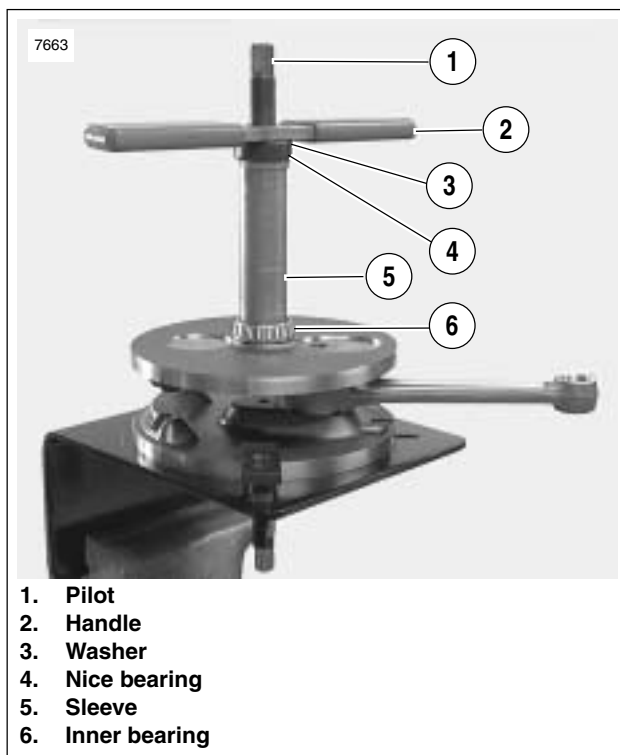

Figure 3-129. Inner Bearing Installation
See Figure 3-129. Use *SPROCKET SHAFT BEARING/SEAL INSTALLATION TOOL* (Part No. HD-42579) to install sprocket shaft tapered roller bearings and seal.
8. See Figure 3-129. Install inner bearing.